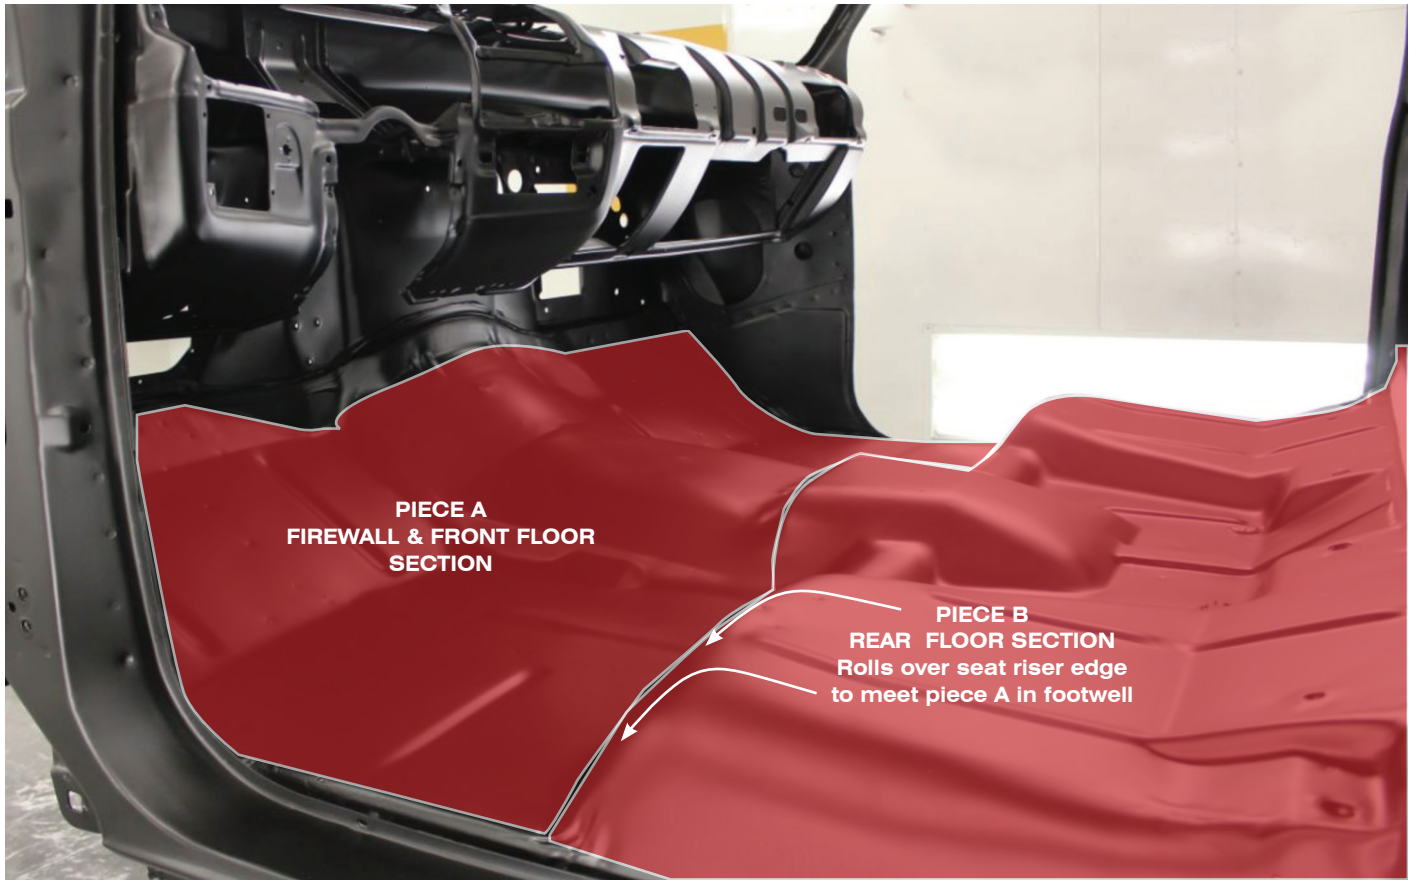
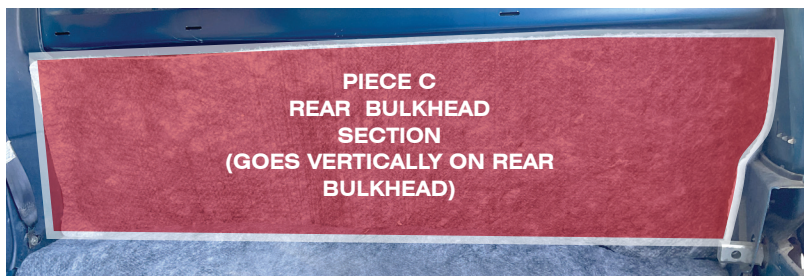

FIG. 2
FIG. 3
STEP 1. Lay the Under Carpet Lite down as in Fig 2 & Fig. 3. Test fit all pieces before using the DEI Transfer Tape to secure in place.